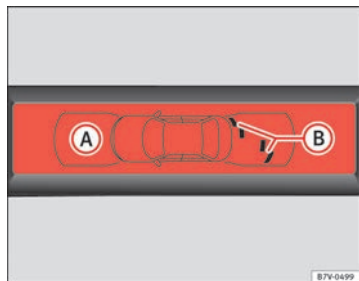

Fig. 145 On-screen OPS display: (A) an obstacle has been detected in the segment (B) zone recorded behind the vehicle
The zone in which obstacles are recognised runs to a distance of around 120 cm from the front of the vehicle and up to 60 cm to the side ⇒ Fig. 145 (B). Behind the vehicle, the zone analysed reaches a distance of up to 160 cm and around 60 cm to the sides ⇒ Fig. 144 (C).
The image displayed represents the supervised zones in several segments. As the vehicle moves closer to an obstacle, the segment moves closer to the vehicle displayed ⇒ Fig. 144 (B) and ⇒ Fig. 145 (A). When the penultimate segment is displayed, this means that the vehicle has reached the collision zone. **Stop the vehicle!** ▶